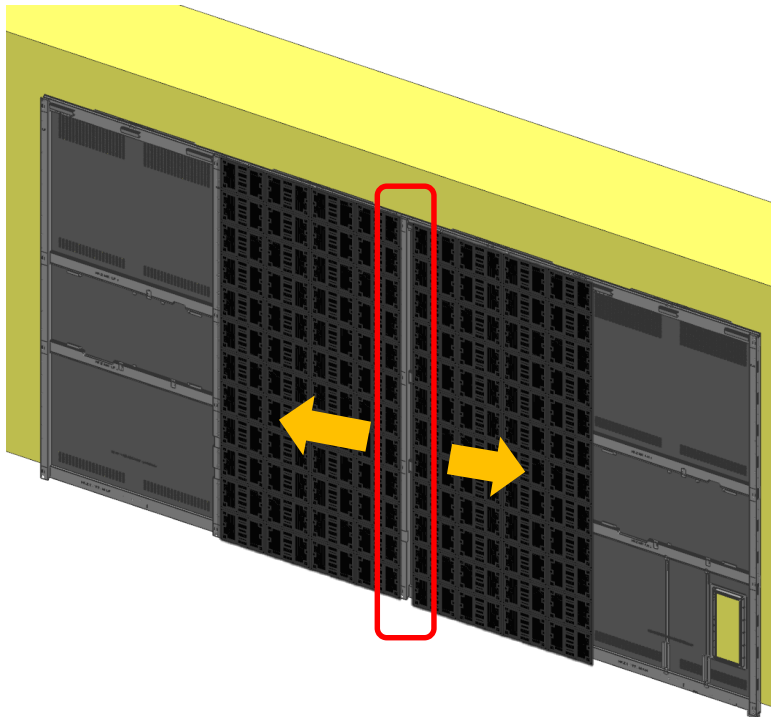

Fig.1 Module
- Open the distance between the two modules. Figure 1